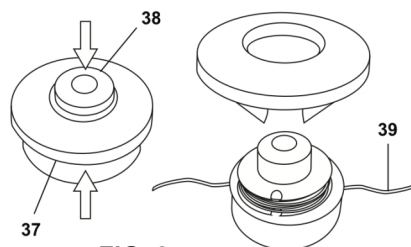

FIG. 27
6. To replace the spool, press the release latch of the trimmer head housing to open the cover. Remove the worn spool and replace with a new one of the same type (Fig. 27).